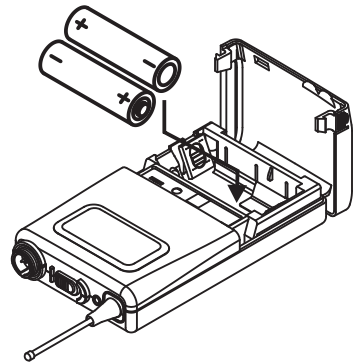

Fig. 18
2. Insert two AA-size batteries according to the correct polarity, see Fig. 18.